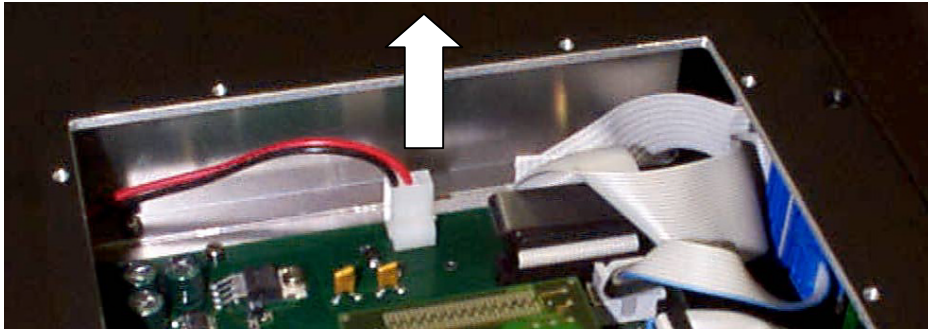

Figure 5 - Disconnecting the 24 Vdc internal power supply connector
2. Disconnect the internal 24 Vdc power connector, referring to Figure 5.